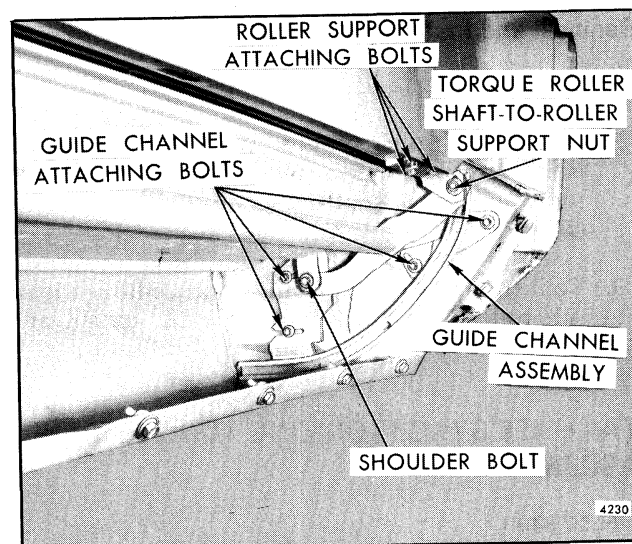

Fig. 7-137-Tailgate Guide Channel Assembly - Right
2. Working through opening between body and rear bumper, remove synchronizing tube-to-guide channel link shoulder bolt (Fig. 7-137 or 7-138).
A torque roller and shaft assembly engages the guide channel on each side of the body. The torque rollers and shafts in turn are connected to the bottom of the tailgate by torque roller supports. The left torque roller support is mounted to a fixed location on the bottom of the tailgate. The right torque roller support is adjustable laterally with respect to the gate in order to allow cross-body adjustment of the gate. Additionally, the right torque roller support-to-roller shaft attaching hole is elongated vertically to provide a cocked tailgate adjustment (Fig. 7-137).
2. Remove left roller support as a bench operation. Remove right roller support from body by removing roller shaft-to-support attaching nut (Fig. 7-137).